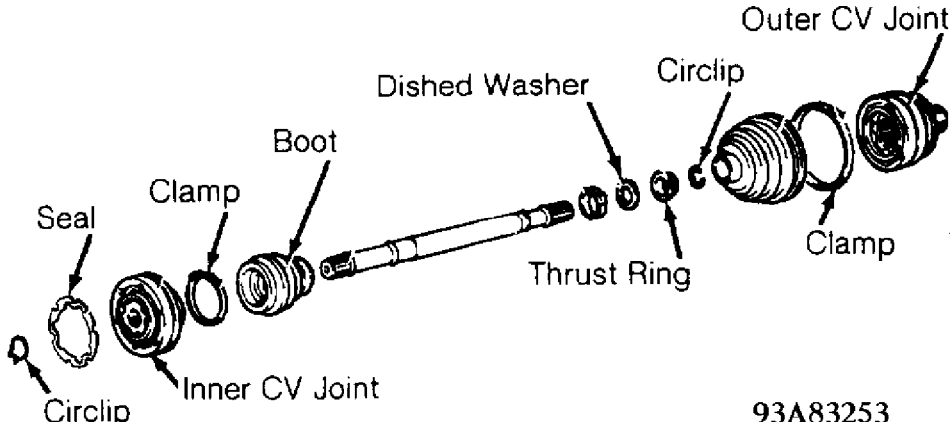

Fig. 1: View Of Axle Shaft (Man. Transaxle Shown; Others Similar)
2) Mark ball joint position on control arm. Remove ball joint from control arm. On models with manual transaxle, compress shock absorber. On models with automatic transaxle, remove plug from multifunction switch. On all models, pull axle shaft out of wheel bearing housing. See Fig. 1.